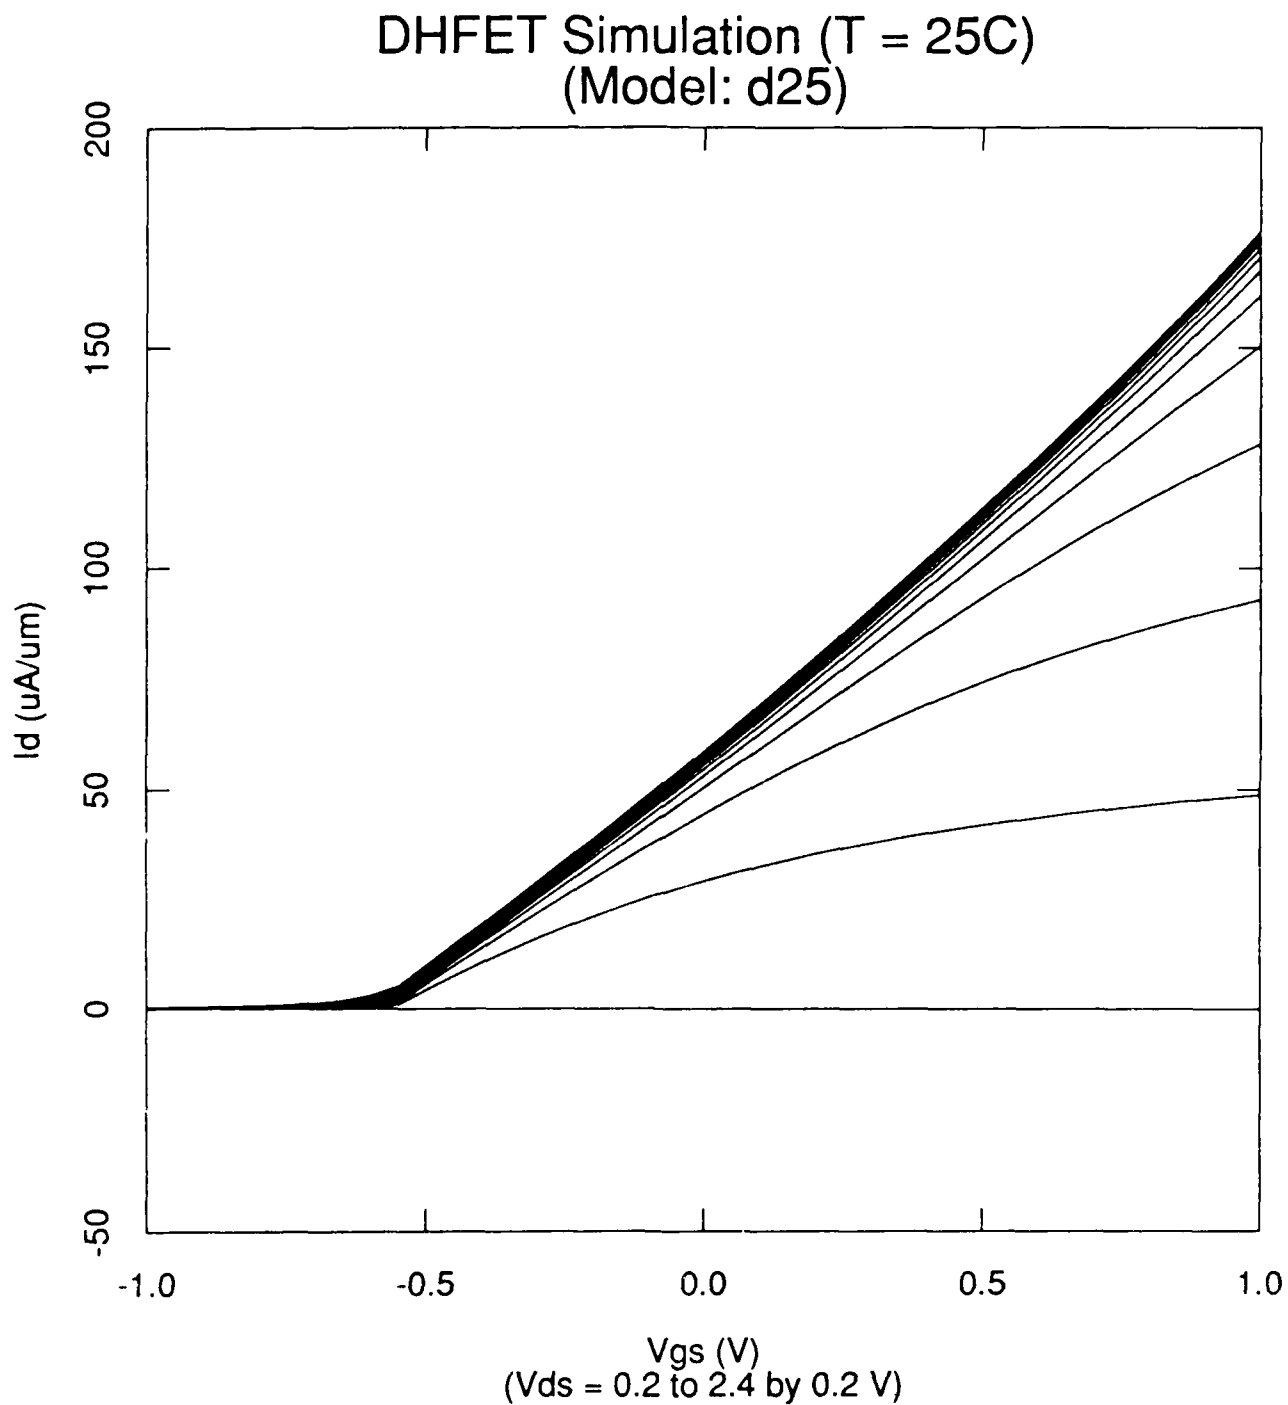

Figure 3. I_d vs. V_{gs} (V_{ds} stepped) for d25 DHFET Simulation at 25C.
- Figure 3. I_d vs. V_{gs} (V_{ds} stepped) for d25 DHFET Simulation at 25C.